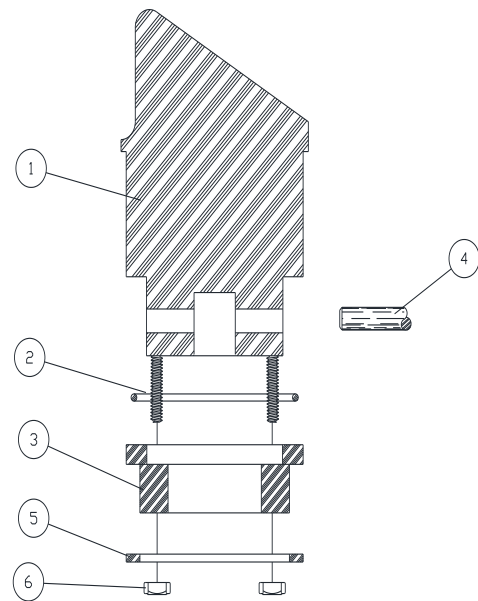
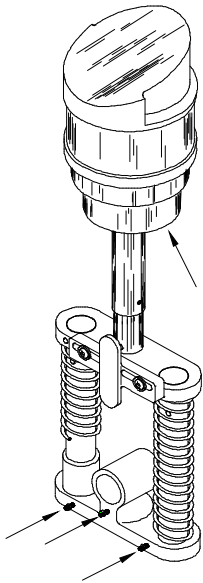

FIGURE 4
FIGURE 2
TO DISMANTLE PISTON IN FIGURE 4, REMOVE THE SIX HEX NUTS (6), SLIP RING (5) DOWN AND OFF, THEN WITH SLIGHT PRESSURE, PUSH PISTON RING (3) OFF PISTON AND RUBBER "O" RING (2). WHEN REASSEMBLING THE PISTON, A VERY IMPORTANT STEP IS TO MAKE SURE THE SIX NUTS (6) ARE NOT OVERLY TIGHTENED, MERELY SNUG. AS THE RING WEARS OVER A PERIOD OF TIME, CONTINUE TO SNUG UP THE SIX NUTS. THIS PROCEDURE WILL NOT ONLY PROVIDE LONG LIFE TO THE PISTON RING BUT WILL MAINTAIN FULL VACUUM.
THE PISTON AND SPRING LOAD ASSEMBLY HAVE A TOTAL OF (4) GREASE FITTINGS, (FIG. 2). THREE (3) OF THESE FITTINGS ARE FOUND ON THE LOWER CASTING OF THE SPRING LOAD. APPLY A SMALL AMOUNT OF GREASE TO THESE FITTINGS BI-WEEKLY. THE SAME PROCEDURE SHOULD BE FOLLOWED FOR THE GREASE FITTING UNDER THE PISTON, (FIG. 4). THIS FITTING IS LOCATED ON THE TOP OF THE OUTSIDE CONNECTING ROD, (PART NO. 322PY).